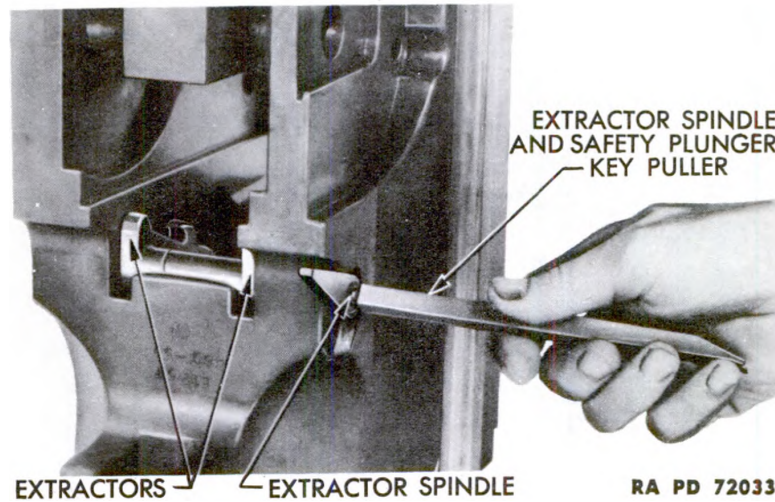

Figure 141 – Puller Assembled to Extractor Spindle
a. **Extractor Removal.** Screw the extractor spindle and safety plunger key puller into the threaded hole in the end of the extractor spindle (fig. 141). Holding the extractors upright and the extractor